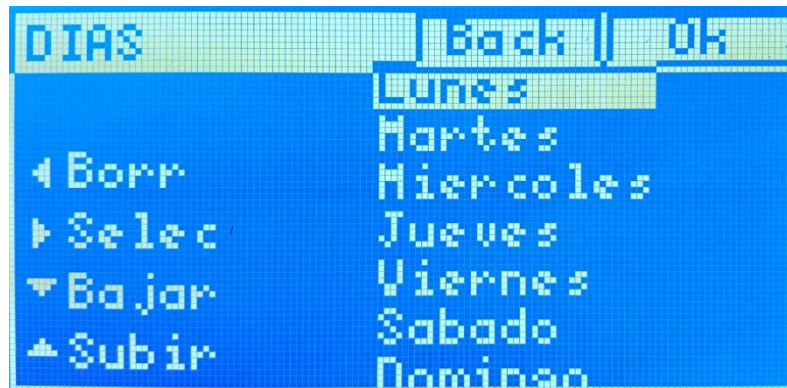

Figure 9- Days per week screen
- a. If “Days x week” was selected, choose the desired days with the **↑, ↓, →, ←** buttons (Figure 9) and press the **Ok** button to advance to the next screen.